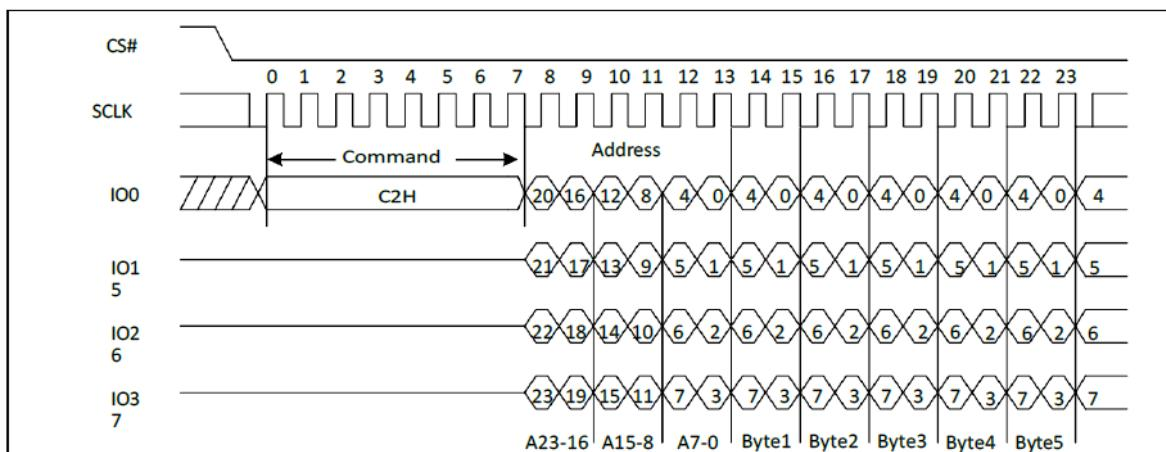

Figure 28 Extend Quad Page Program Sequence Diagram (SPI)
The Extend Quad Page Program with 4-Byte Address instruction(3Eh) is similar to the Extend Quad Page Program instruction(C2h) except that it requires 32-bit address instead of 24-bit address. The Extend Quad Page Program with 4-Byte Address can improve performance for PROM Programmer and applications that have slow clock speeds <5MHz. Systems with faster clock speed will not realize much benefit for the Quad Page Program with 4-Byte Address instruction since the inherent page program time is much greater than the time it take to clock-in the data. To use Quad Page Program with 4-Byte Address the Quad Enable (QE) bit must be set to 1. The Quad Page Program with 4-Byte Address instruction sequence is shown in Figure 28.